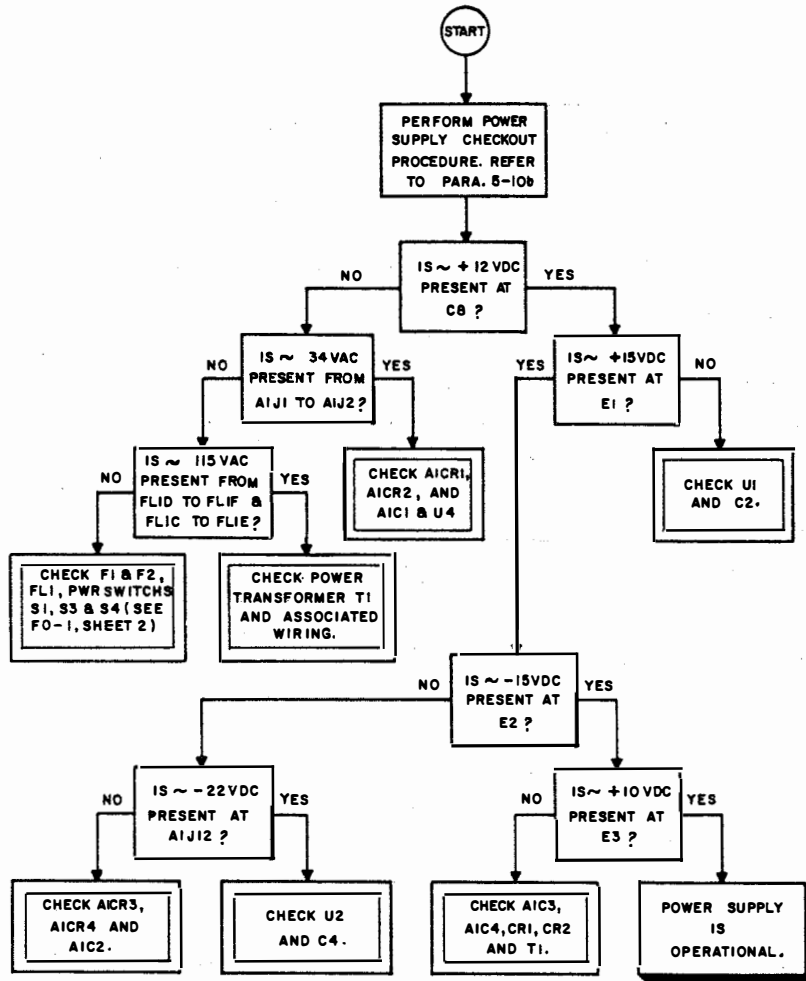

Figure 5-9. Power Supply Fault Logic Diagram
(1) Figure 5-9, Power Supply Fault Logic Diagram.
(2) FO-1, Sheet 2, Main Chassis Schematic Diagram.
(3) Power Supply circuit description, paragraph 3-101.